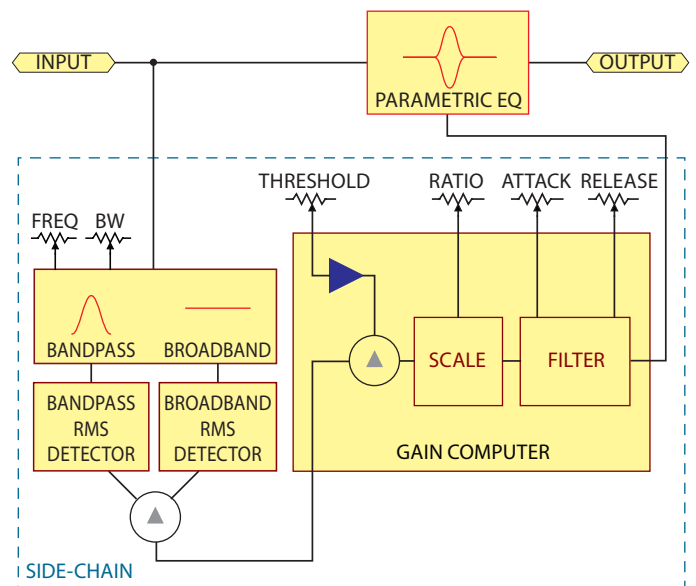

Figure 10. Relative threshold dynamic EQ block diagram.
**Relative Threshold Dynamic EQ** is a special form of dynamic EQ where the rms level of the bandpass signal in the side-chain is compared to the rms level of the broadband signal. The *difference* between the bandpass and broadband levels is compared to the threshold rather than the absolute rms value of the bandpass signal. The advantage of this type of dynamic EQ is that the *relative* amplitude of a band of frequencies, as compared to the broadband level, is maintained regardless of broadband amplitude. The typical topology is shown in Figure 10.